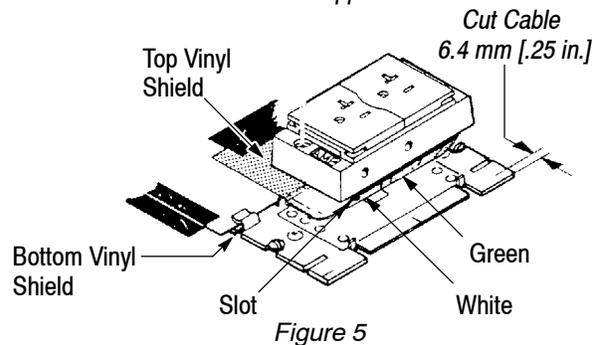

Figure 5
assembly will enter the blank holes in the mounting plate. See Figure 5.
- a. Cut the cable square about 6.4 mm [.25 in.] from the end of the mounting plate. See Figure 5.
7. Thread, but do not tighten, the two outer screws of the receptacle assembly shown in Figure 5.